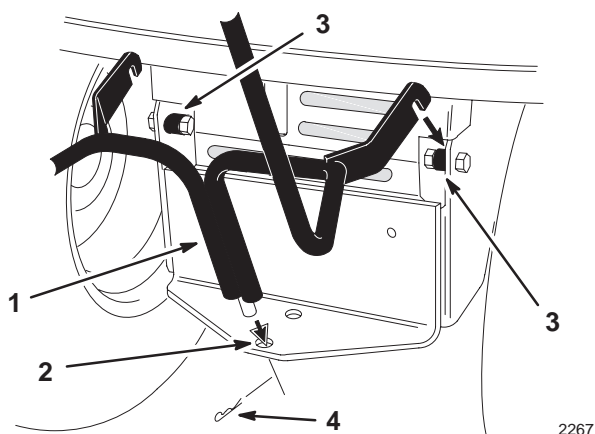

Figure 25
1. Slide the bottom of the quick-attach bracket down into the hole in the hitch and hook the notches onto the spacers located inside the tractor frame (Fig. 25).
2. Slide the cotter pin through the hole at the bottom of the quick-attach bracket (Fig. 25).